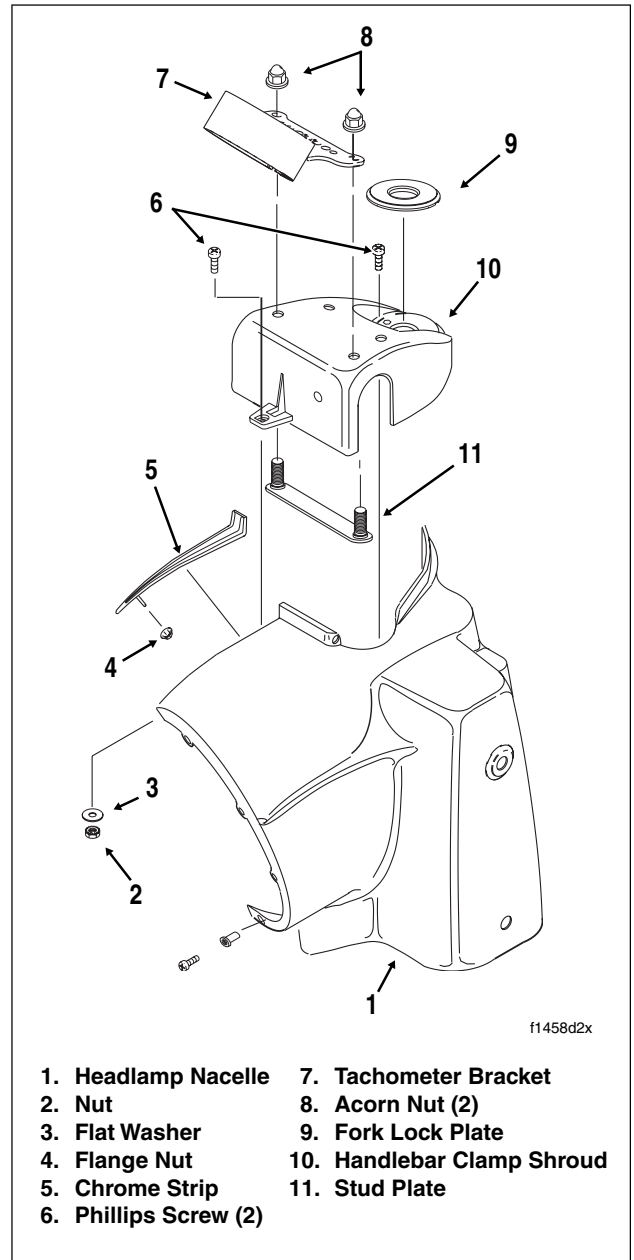

Figure 2-8. Headlamp Nacelle Assembly
5. Reaching inside the headlamp nacelle, remove flange nut to release the chrome strip at the top of the nacelle. See Figure 2-8.